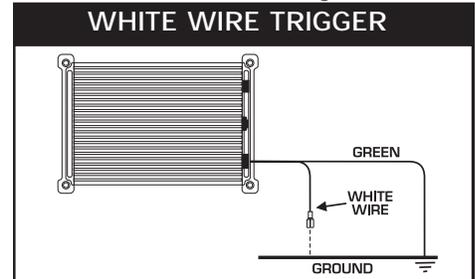

Figure 7 Checking for Spark with the White Wire.
6. Tap the white wire to ground quickly several times (Figure 7). Each time you pull the wires from ground, a spark should jump from the coil wires to ground. If spark is present, the ignition is working properly. Do the same test using the Green Trigger wire. If there is no spark skip to step 7 below: